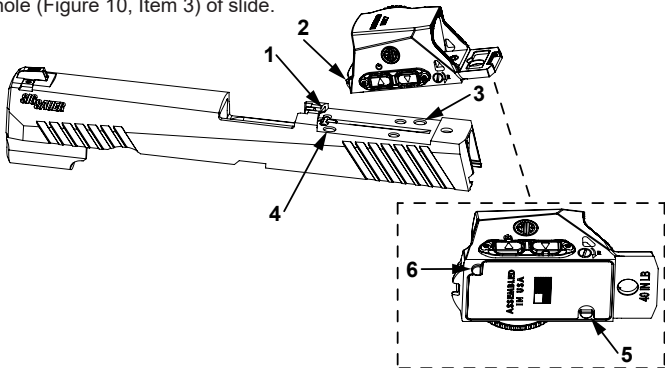

Figure 10. Position Sight on Slide
10. Insert front wedge of sight (Figure 10, Item 2) into cutout in slide (Figure 10, Item 1). Set sight onto slide ensuring front recoil lug (Figure 10, Item 6) seats in front hole (Figure 10, Item 4) and rear recoil lug (Figure 10, Item 5) seats in rear hole (Figure 10, Item 3) of slide.